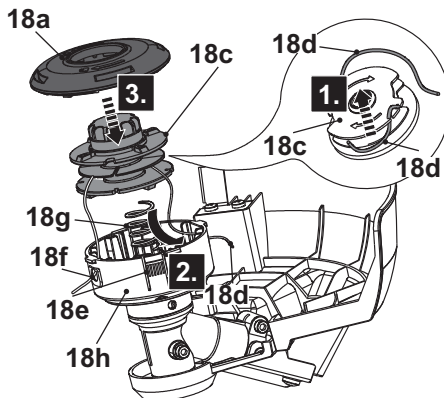

Fig. 30
9. Release the trimming line (18d) from the notches and hold it in position. Avoid the trimmer line (18d) scattered from the trimming spool (18c) (Fig. 30, Step 1).
10. Lead the trimming line ending through the eyelet (18f) on the housing (18h) (Fig. 30, Step 2).
12. Insert the trimming spool (18c) into the housing (18h) (Fig. 30, Step 3).